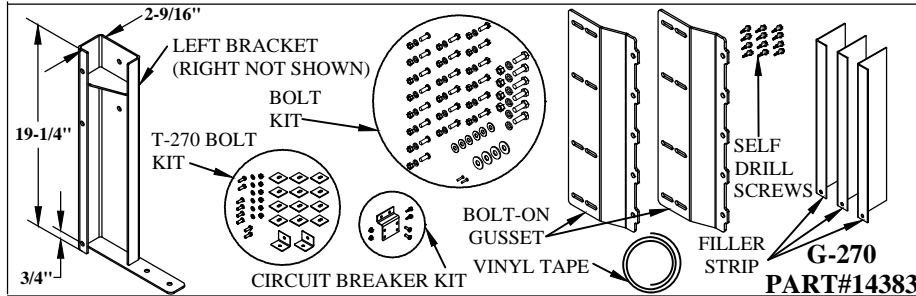

Figure 1: G-270 Part Identification.
2. Verify mounting bracket kit (Figure 1 and Table 1).